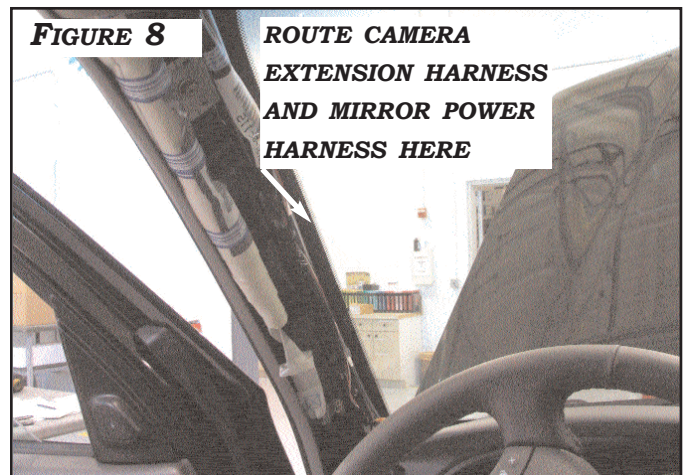

FIGURE 8
1. ROUTE **CAMERA EXTENSION HARNESS** AND **MIRROR POWER HARNESS** (RED, BLACK AND WHITE WIRES) ABOVE HEADLINER TO DRIVER-SIDE A-PILLAR. ROUTE HARNESSES DOWN THE A-PILLAR USING THE FACTORY RETAINING CLIPS WHENEVER POSSIBLE. IF THE VEHICLE HAS SIDE CURTAIN AIRBAGS, BE SURE TO SECURE THE HARNESS SO THAT IT DOES NOT INTERFERE WITH AIRBAG DEPLOYMENT. ROUTE THE HARNESSES FROM THE A-PILLAR TO THE KICKPANEL. **FIGURE 8**